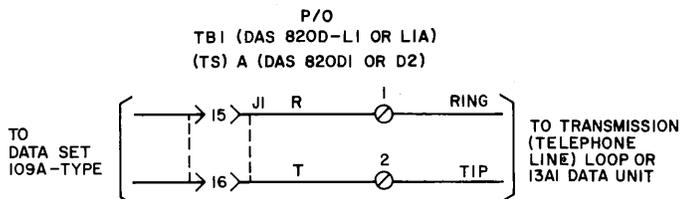

Fig. 9—Telephone Line Connection for Station-to-Station Operation When Voltage is Present on Incoming Transmission Loop
- (a) Connect the ring (+) lead of the loop to terminal 1 as shown in Fig. 9.
- (b) Connect the tip (—) lead of the loop to terminal 2 as shown in Fig. 9.
- Connect the positive (+) lead of the meter to the ring (R) lead of the wire and the negative (–) lead of the meter to the tip (T) lead of the wire.
- (4) Connect the tip and ring leads of the wire from the 13A1 data unit to TB1 [(TS)A of DAS 820D1 or D2] of DAS 820D- or L1 or L1A as follows:
- Connect the tip (T) lead of the wire to terminal 2 as shown in Fig. 9.
- Connect the ring (R) lead of the wire to terminal 1 as shown in Fig. 9.